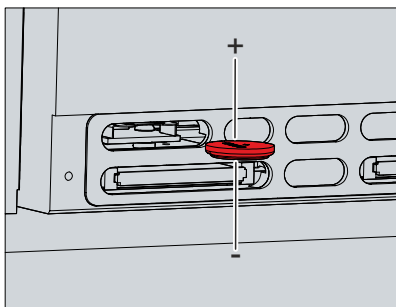

Fig. 26: Replacing the battery
2. Insert the new battery into the PC by hand. Make sure that the polarity is correct as shown (see Fig. 26).